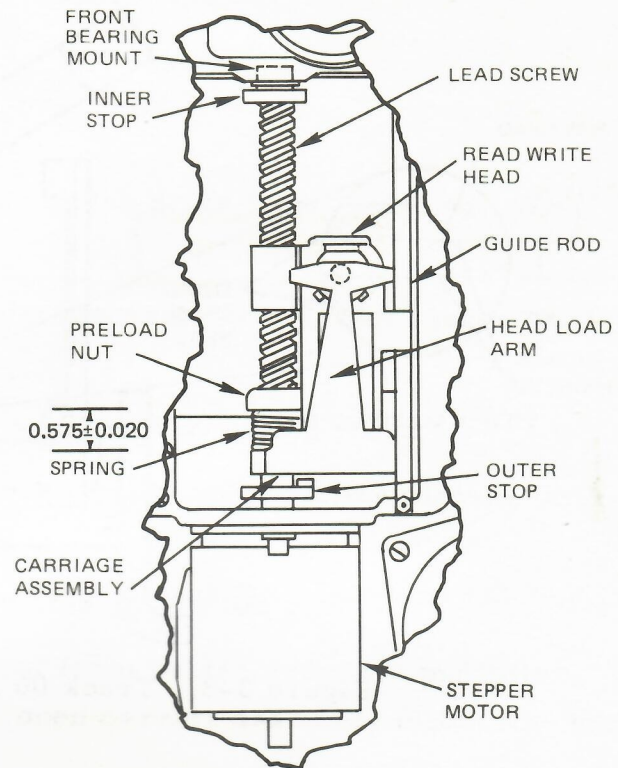

Figure 3-4. Stepper Motor Replacement
- f. Loosen inner and outer stop setscrews (see Figure 3-4).
- h. Loosen three (3) hex socket-head stepper motor screws and pull lead screw out of bearing in deck assembly.
The compression spring should be compressed by positioning the preload nut such that the spacing between the nut and the bottom of the carriage is as shown in Figure 3-4.